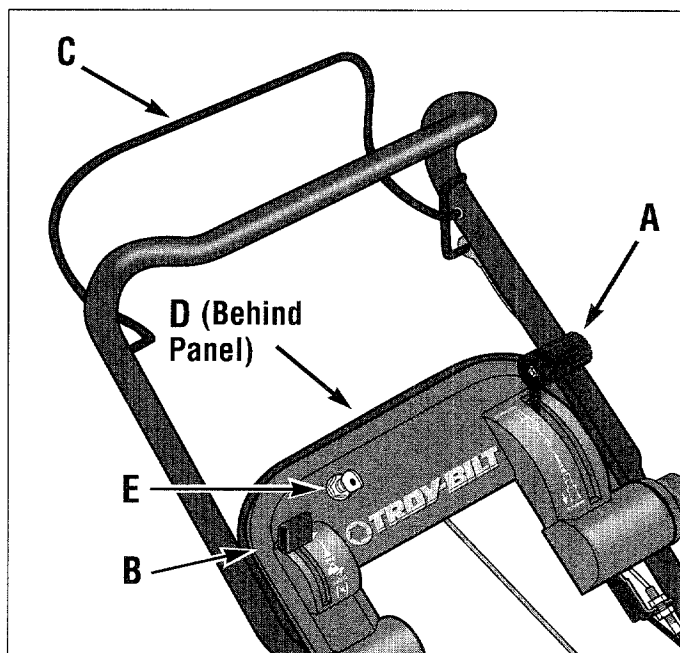

Figure 4-8: Operating controls on Models 34023, 34323 and 34323C.
- C. Move the Wheel Drive Lever (A, Figure 4-8) back to the DISENGAGE position.
- D. Move the Engine Speed Lever (B, Figure 4-8) forward past the FAST position to the CHOKE position.
- E. Stand in the operator's position and squeeze the Operator Presence Control Bar (C) against the handlebar.
- F. Put the ignition key (E, Figure 4-8) in the keyswitch and turn the key to the right to the START position. Use short starting cycles of 15 seconds to avoid damaging the starter motor.
- H. Move the Engine Speed Lever (B) to the FAST setting.
- B. Firmly grasp the Recoil Starter Rope Handle (D, Figure 4-8). Slowly pull the Recoil Starter Rope Handle rearward until there is resistance from engine compression.
- E. When the engine starts, move the Engine Speed Lever (B) to the FAST position. The mower blade is now turning.
A. To select a mowing speed, first move the Wheel Drive Lever (A, Figure 4-8) to the **DISENGAGE** position.
NOTE: When *changing the speed of the mower*, always move the Wheel Drive Lever (A, Figure 4-8) back to the **DISENGAGE** position to de-clutch the wheel drive mechanism before turning the Wheel Speed Adjustment Knob.